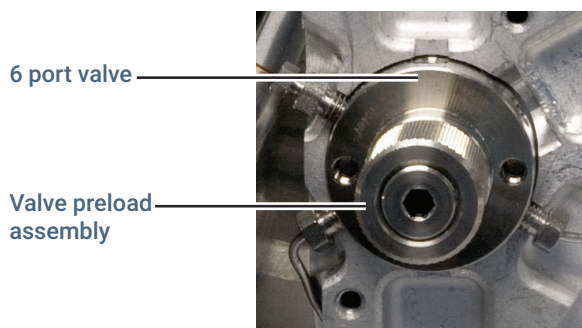

Figure 23. Valve preload assembly
- 6 Using your hand, unscrew the preload assembly on the front of the valve (**Figure 23**).